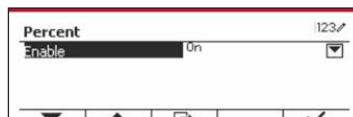

Figure 75
- Select list item and press the softkey corresponding to the ✓ icon to change setting. (See Figure 75)